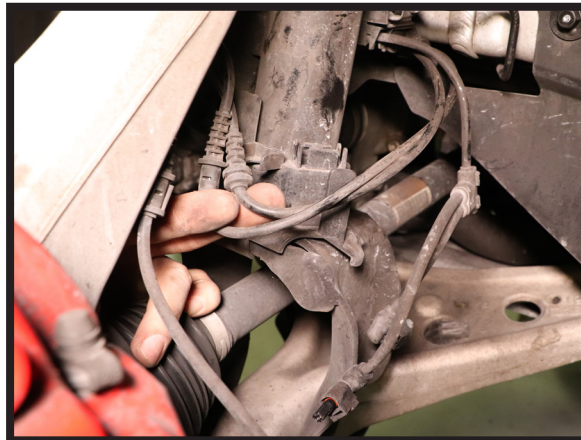

FIGURE 6
9. UNROUTE WIRES FROM THE STRUT WIRE HARNESS BRACKET. (FIGURE 6)